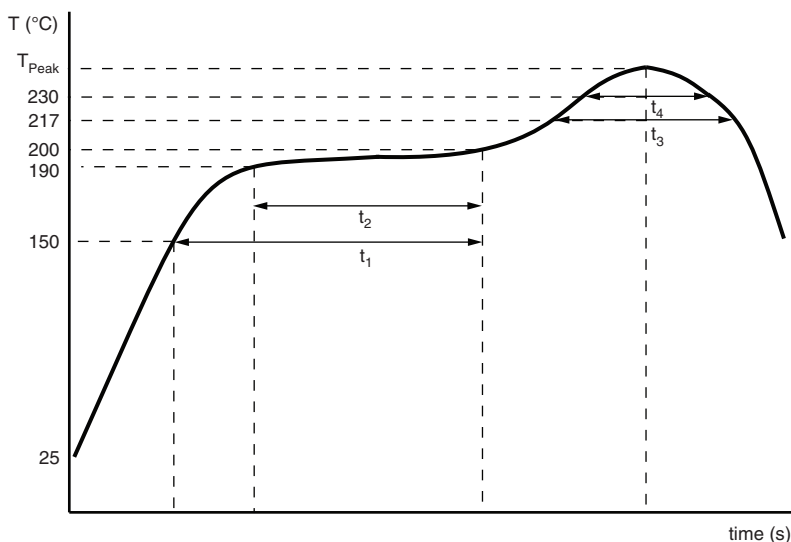

Fig. 6 - Maximum temperature load during reflow soldering
For maximum conditions refer to Fig. 5 or Fig. 6.
- Advanced reflow soldering profile, according to JEDEC J-STD-020, see Fig. 6 and Table 5